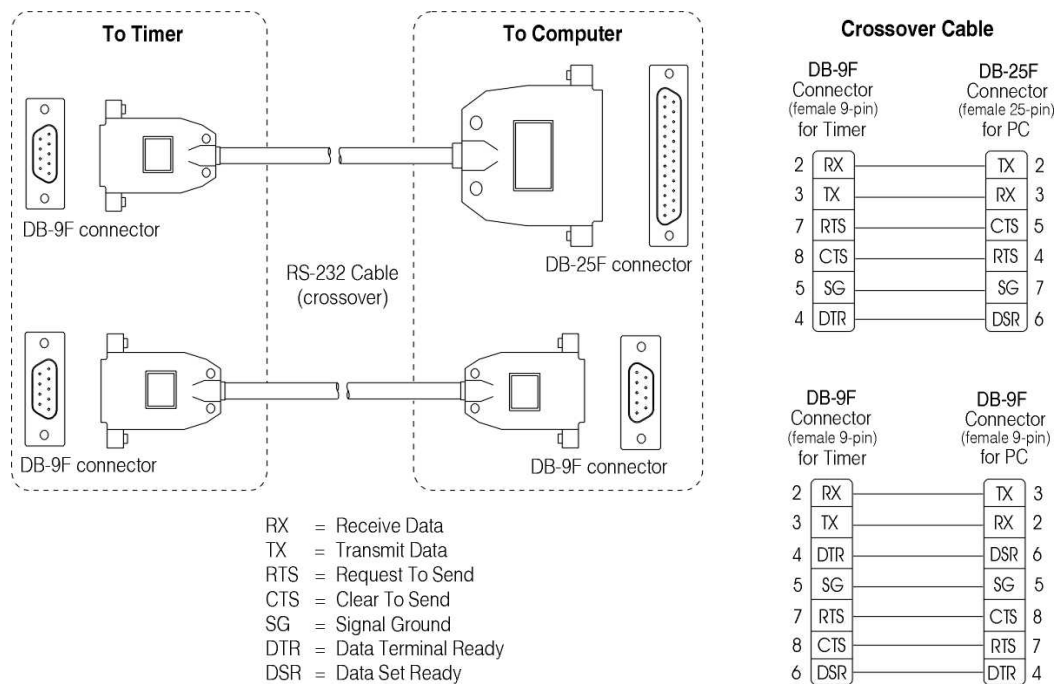

Figure 4. RS-232 cable pin connections (PC to a System 30 Timer)
- Pin connections for the cable wires must be as shown in Figure 4.